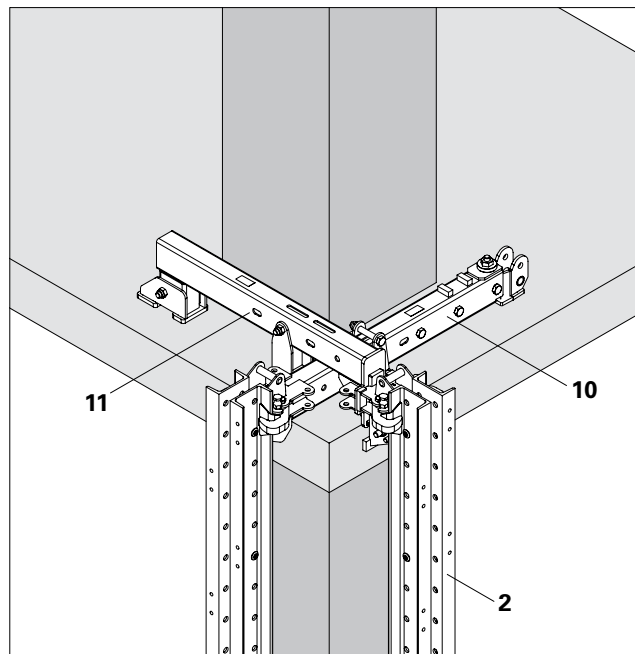

Fig. B3.01a
At the corner of the building: a cross-wise arrangement of the Slab Shoe-2 LPS (10) and Slab Shoe Corner-2 LPS (11). (Fig. B3.01a)